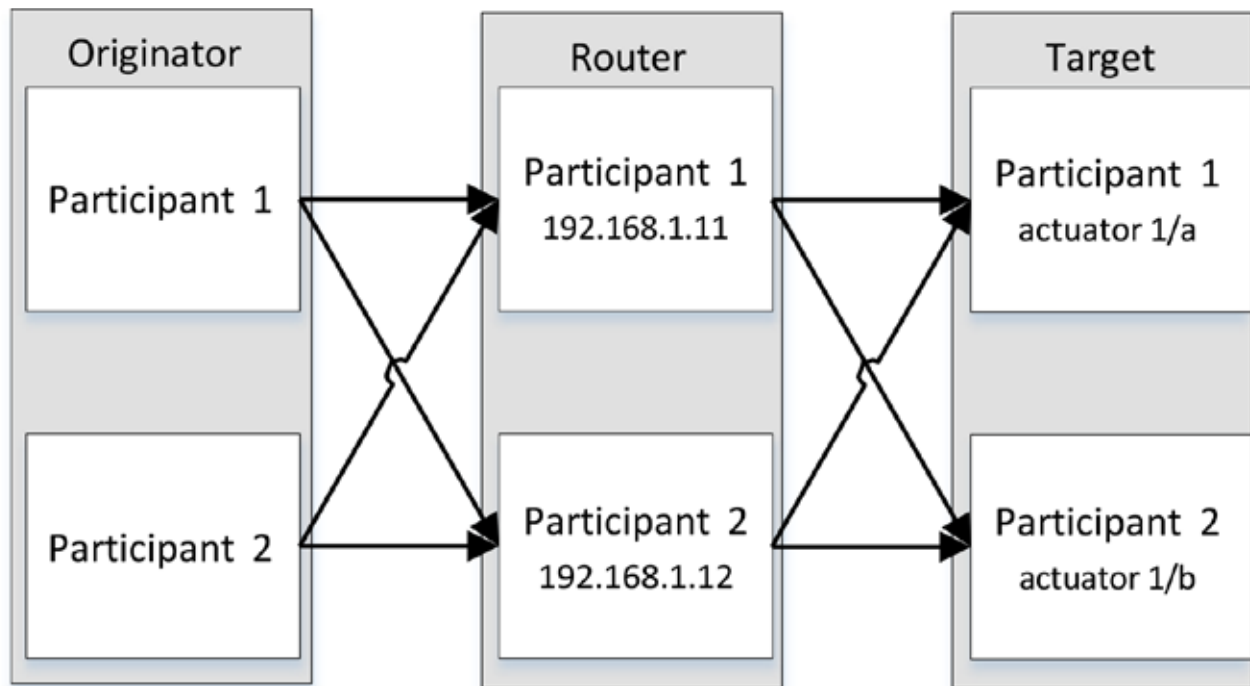

Figure 11: Example system with concurrent connection.
2. The Concurrent Connection Path segment for the connection from Figure 11 as configured in the originator participants would contain the following: